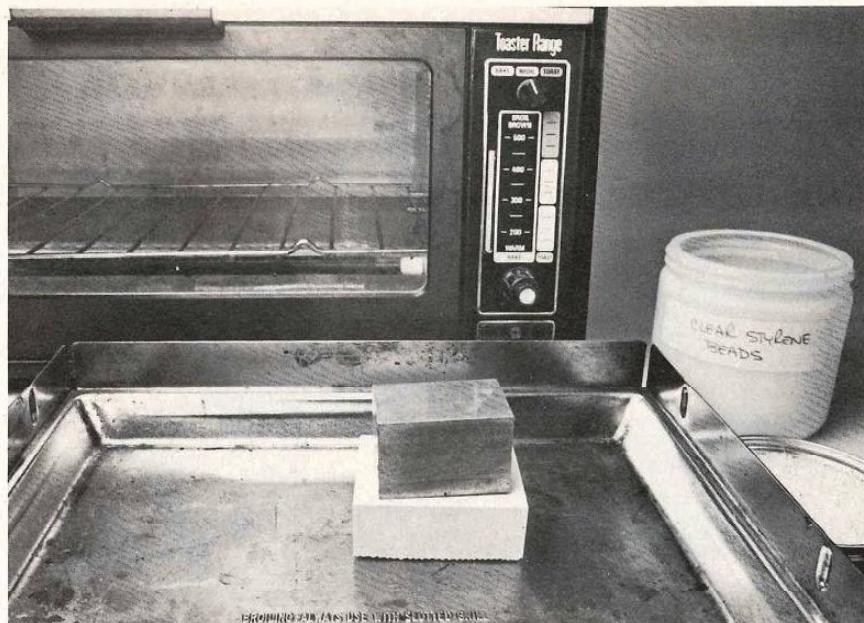

Fig. 9. A mold filled with plastic, topped with a preheated metal weight, and ready to go back into the toaster oven.
3. After 10-15 minutes remove the mold from the oven and poke the gel-like plastic into any unfilled portions of the mold cavity with tweezers. Place the heated weight on top of the mold, squeezing the molten plastic into the mold cavities, Fig. 9, and return the mold with the weight on top to the oven.